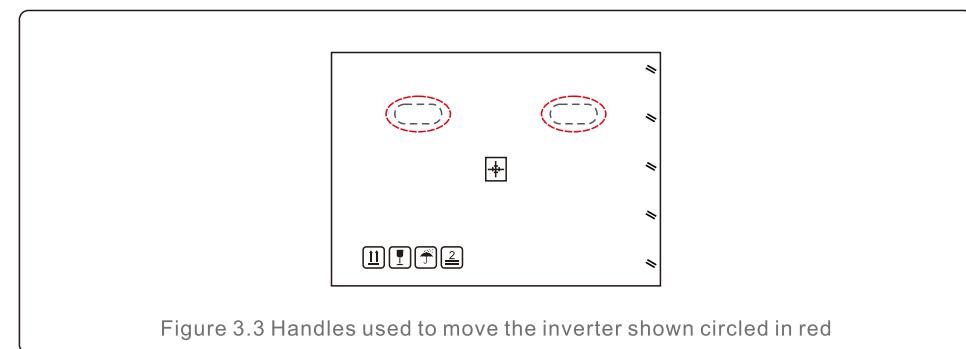

Figure 3.3 Handles used to move the inverter shown circled in red
1. The red circles below denote cutouts on the product package. Push in the cutouts to form handles for moving the inverter (see Figure 3.3).